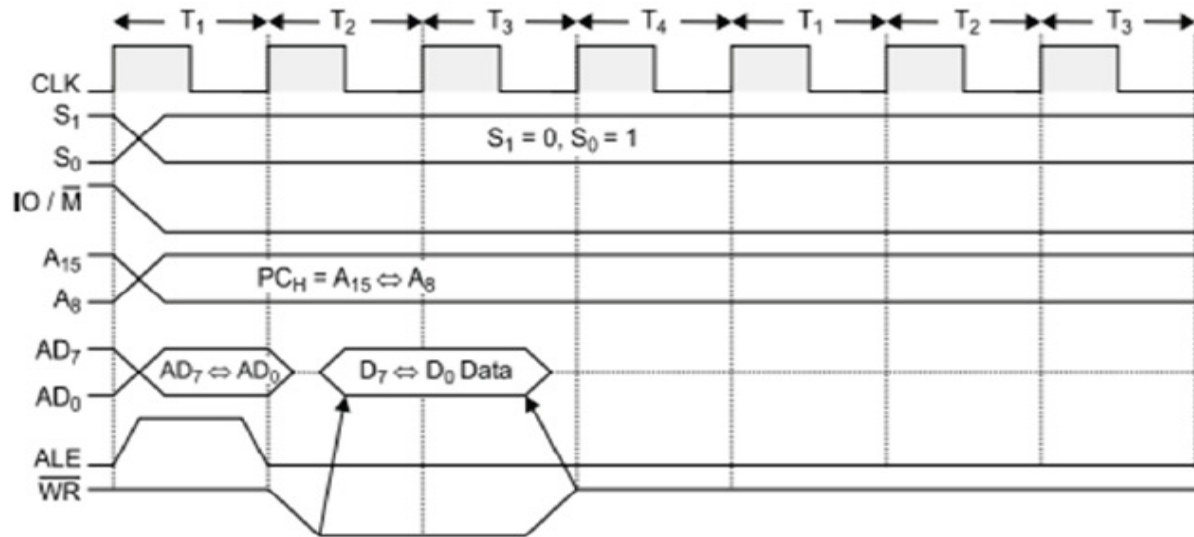

Fig 12.Memory Write timing diagram
- During T2, $\overline{ALE}$ goes low, $\overline{WR}$ (bar) goes low and Address is removed from AD0-AD7 and then data appears on AD0-AD7 as in fig 12.